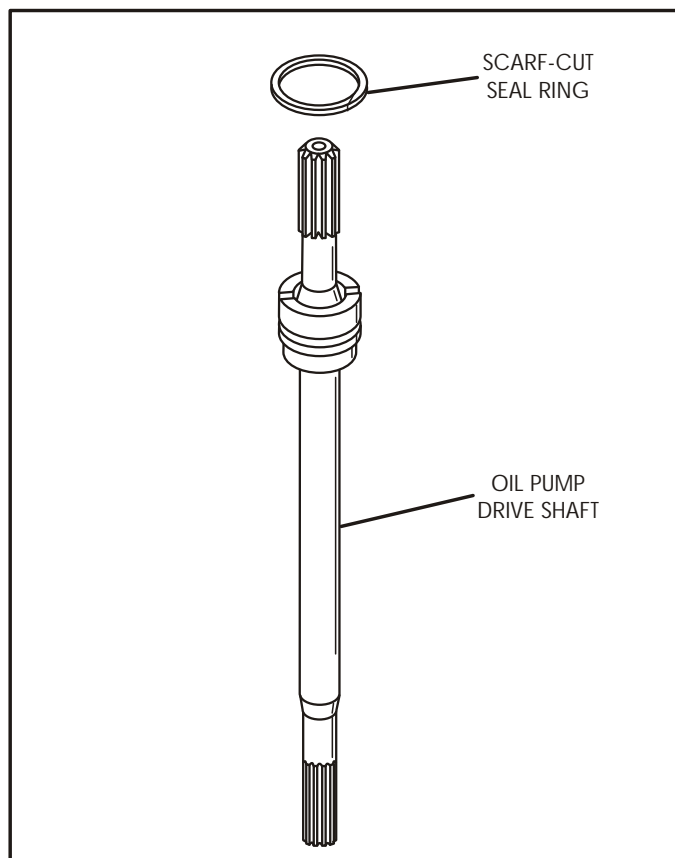

Figure 139
1. Inspect the oil pump drive shaft for any damage or wear, replace as necessary (See Figure 139).
2. Install new scarf-cut sealing ring into groove in the oil pump drive shaft (See Figure 139).